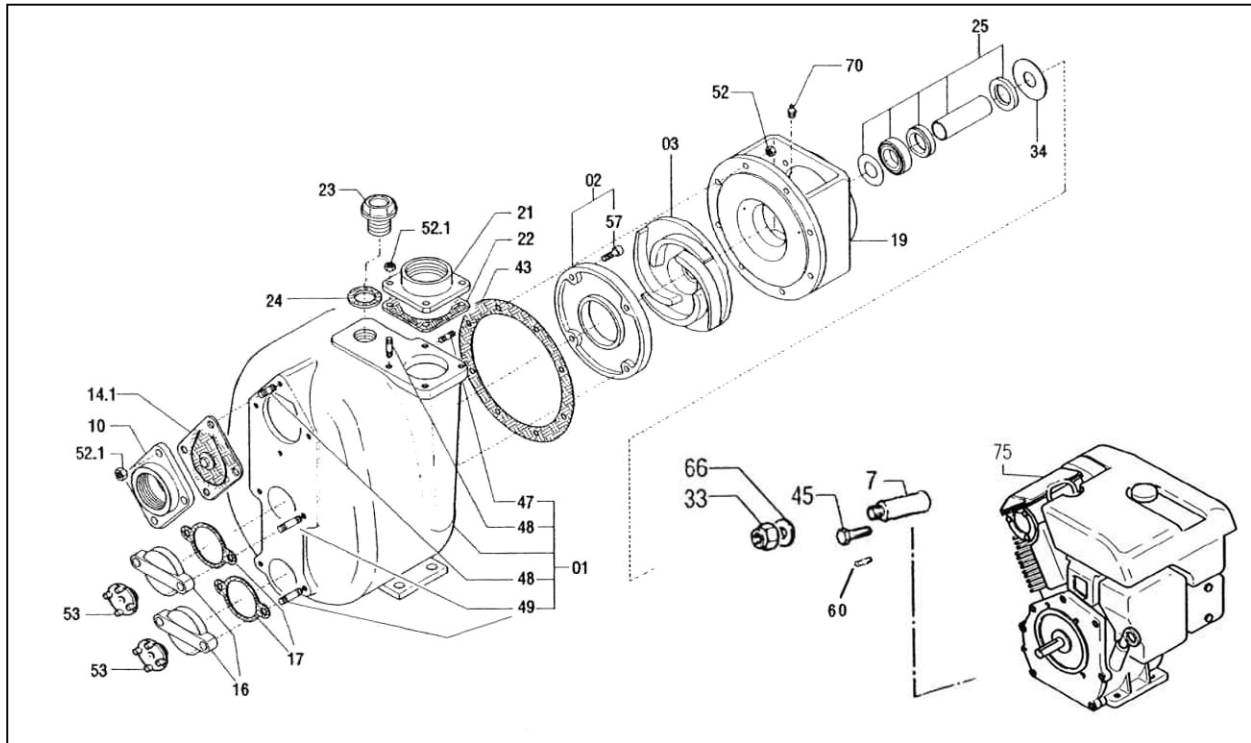

Figure 47
9.3.7 Casing Wear Plate (figure 47, #02)
1. Drain the casing (figure 47, #01) through the drain plug (figure 47, #16).
2. Unscrew the nuts (figure 47, #52) and remove the pump casing (figure 47, #01), taking care not to damage the casing gasket (figure 47, #43).
3. Remove the three wear plate screws (figure 47, #57). Remove the casing wear plate (figure 47, #02).
4. Replace the casing wear plate (figure 47, #02).